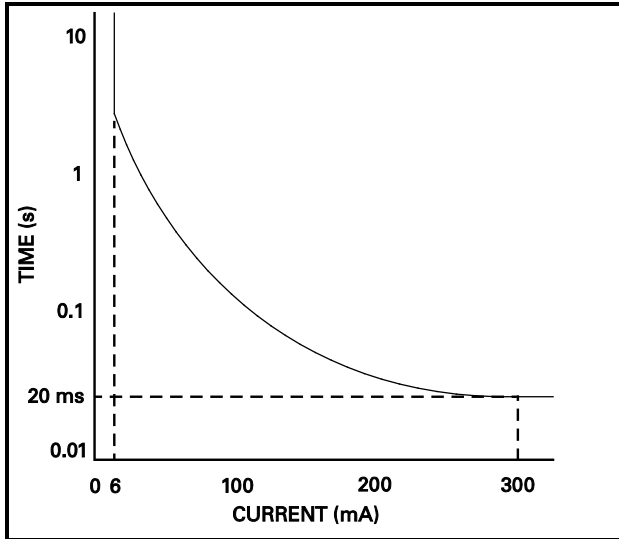
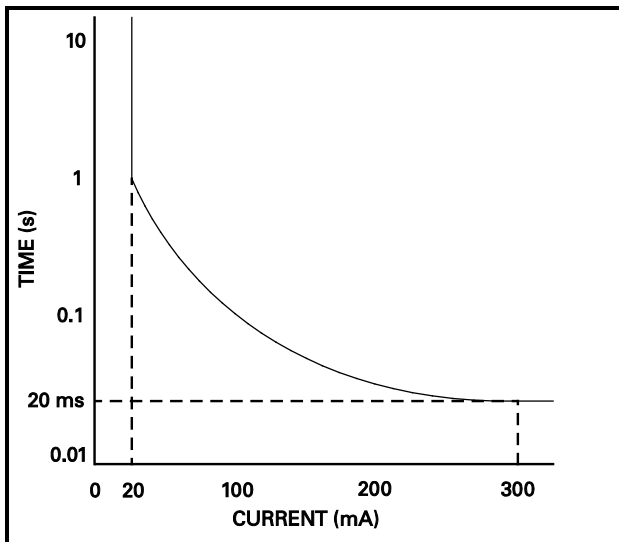

FIGURE 14. Class-A GFCI Curve.
FIGURE 15. Class-C and -D GFCI Curve.
Fig. 14 shows the Class-A GFCI maximum-trip-time-versus-current curve defined by UL 943 (with the above formula); UL 943 also defines a limit to the formula, with a minimum required trip time (or fastest trip speed) of 20 ms, which occurs at about 300 mA of ground-fault current (I) per the formula. Class C and D GFCIs must operate within this same curve, except that their operating threshold is 15 to 20 mA (non-adjustable). See Fig. 15. The SB6100 EFGPDs described in this manual also operate within the Class-A formula, but have a 6- to 100-mA threshold setting range.